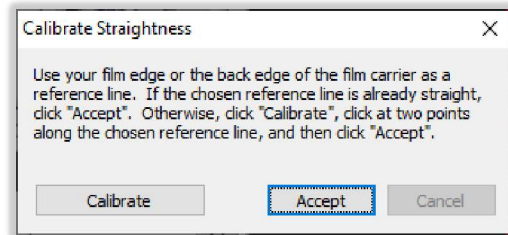

Figure 101
- e. When clicking on the *IMS Pro* button for the first time, the *Calibrate Straightness* window appears. *Figure 101*